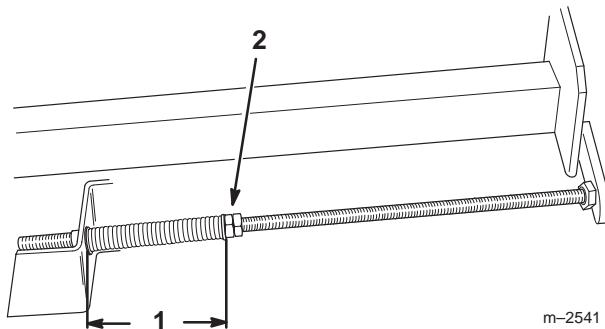

Figure 50
1. Belt Guide (2)	3. Drive Belt
6. Tighten the jam nuts on the adjusting shafts until the springs are compressed to a length of 5 inches (12.7 cm) (Fig 50).